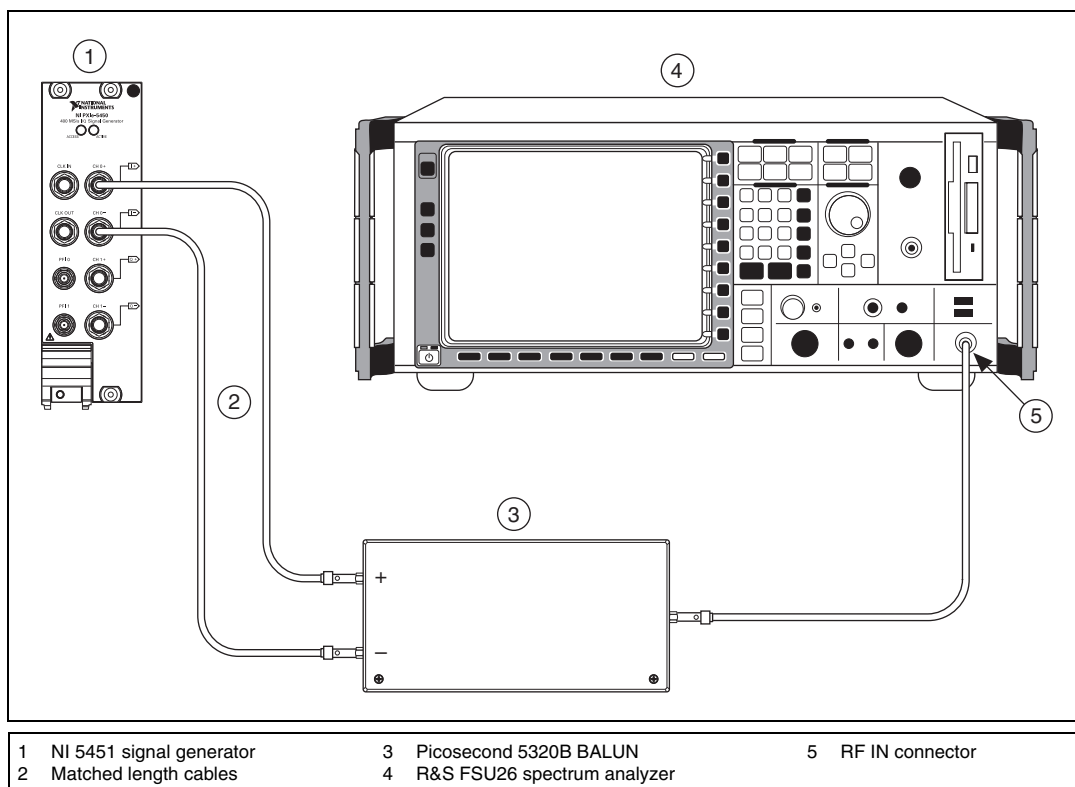

Figure 13. NI 5451 Connection to Spectrum Analyzer Using a BALUN (CH 0)
1. Connect the differential CH 0 on the NI 5451 through the BALUN to the spectrum analyzer, as shown in Figure 13.